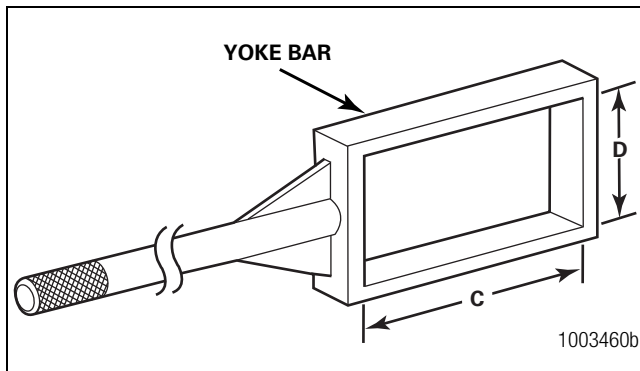

Figure 10.3
2. Calculate dimensions C and D of the yoke bar by adding 0.125-0.250-inch to dimensions A and B of the yoke. Figure 10.3.
3. To make the box section, cut and weld one-inch x two-inch mild steel square stock according to dimensions C and D. Figure 10.3.
4. Cut a four-foot x 1.25-inch piece of mild steel round stock to make the yoke bar handle. Center weld this piece to the box section. Figure 10.3.
- To increase yoke bar rigidity: Weld two angle pieces onto the handle. Figure 10.3.